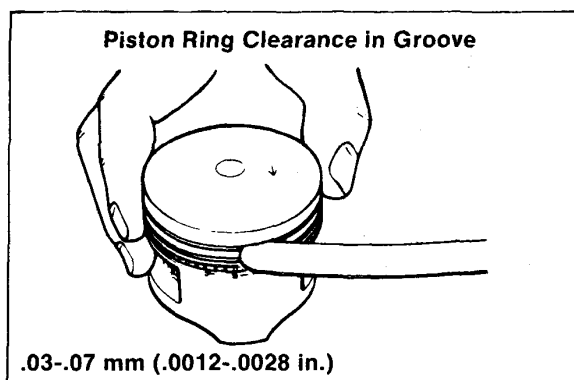

Figure 4-40
1. Measure the piston ring clearance in the piston ring groove. See Fig. 4-40. Clearance — .03-.07 mm (.0012-.0028 in.) Wear Limit — .1 mm (.0039 in.)